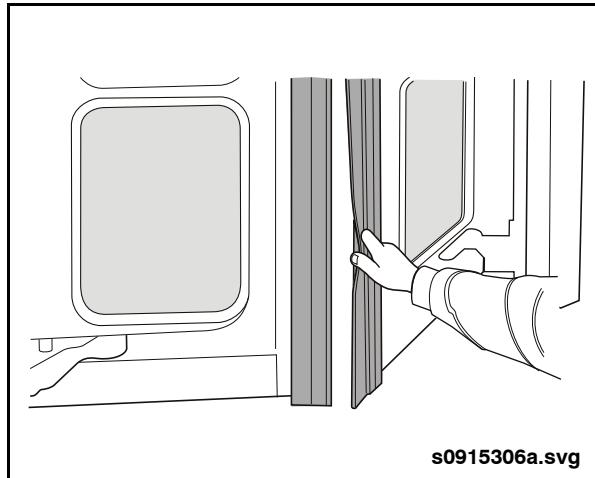

Fig. 16-23: Pinch Test
4. Standing outside the vehicle and while the doors are closing, firmly pinch the sensitive edge seal on the left hand door panel. The doors should reopen. See "Fig. 16-23: Pinch Test" on page 49.